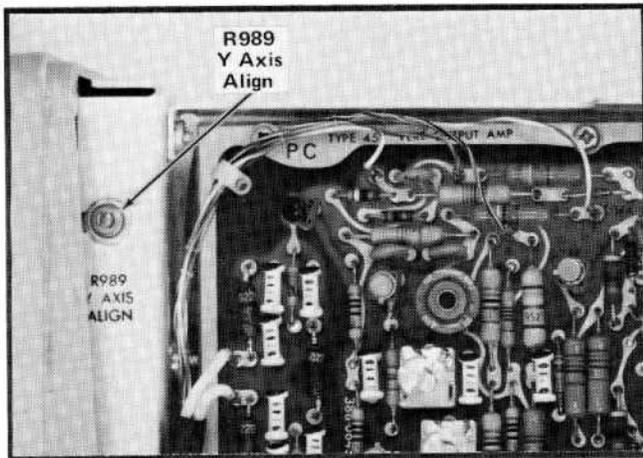

Fig. 5-7. Location of Y Axis Align adjustment (left side of instrument).
d. ADJUST—Y Axis Align adjustment R989 (see Fig. 5-7) to align the markers with the center vertical line.